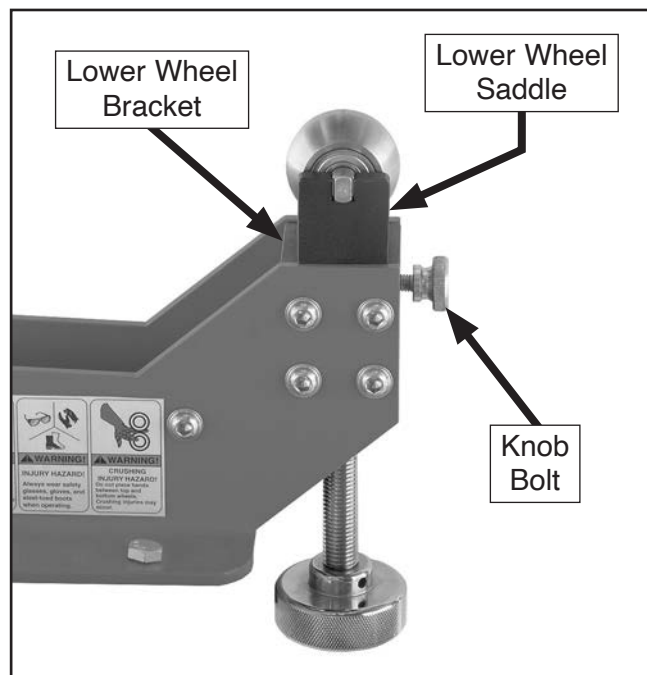

Figure 13. Lower wheel saddle lowered flush with bracket.
1. Loosen knob bolt and rotate handwheel until lower wheel saddle is flush with lower wheel bracket (see **Figure 13**).
2. Rotate handwheel until lower wheel saddle is flush with lower wheel bracket, as shown in **Figure 13**.